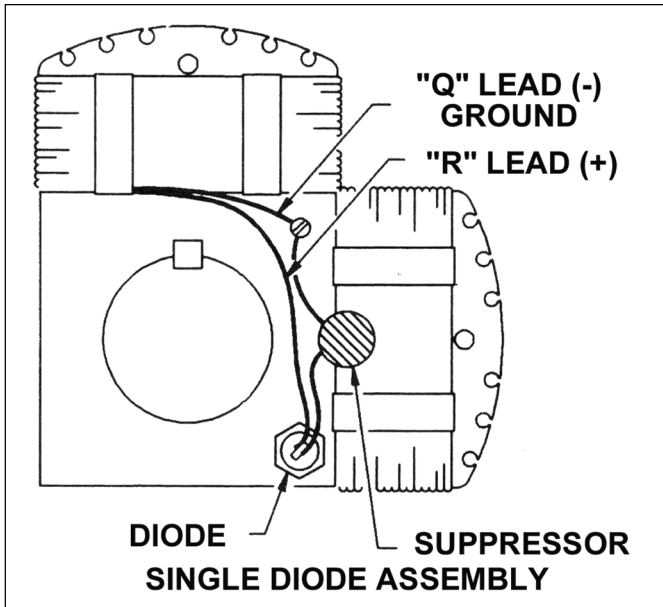

Figure 2
Flashing the Rotor - Refer to Figures 2 and 3
- Check each diode individually by removing the (+) rotor lead stud connection (see Figures 2 and 3). Diodes are good if the resistance reading is approximately mid-scale on the lowest ohm rating.